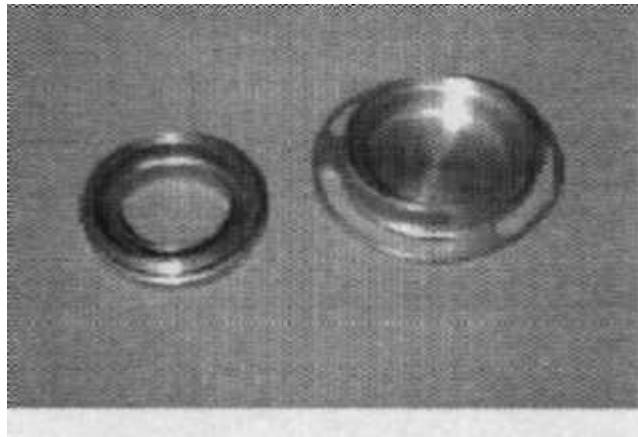

Figure 5-3 Impactor Well
5.3.5 Unscrew the middle Section of the WINS impactor to remove its top piece from the bottom. This exposes the impactor well. Remove the impactor well from the bottom Section of the WINS impactor (Figure 5-3).